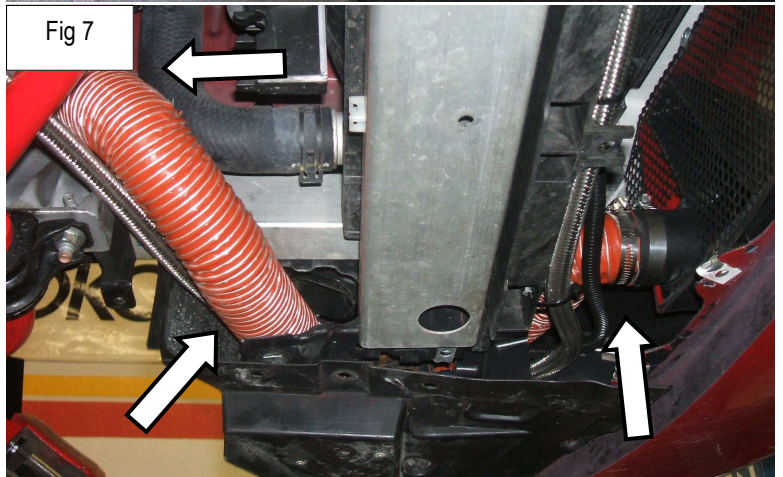

Fig 6
12. Install the hose onto the front duct as shown using the provided hose clamp. You will be doing the same on the opposite side. See (Fig.6)